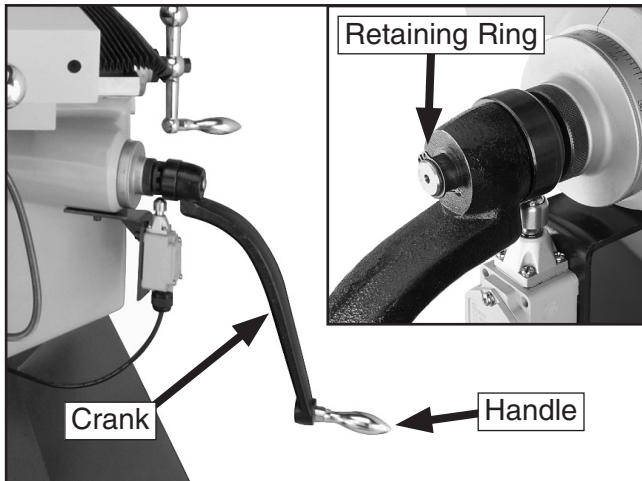

Figure 12. Vertical crank installed.
3. Use the snap ring pliers to remove the retaining ring from the vertical crank leadscrew (see **Figure 12**), slide the crank on the leadscrew, then replace the retaining ring.